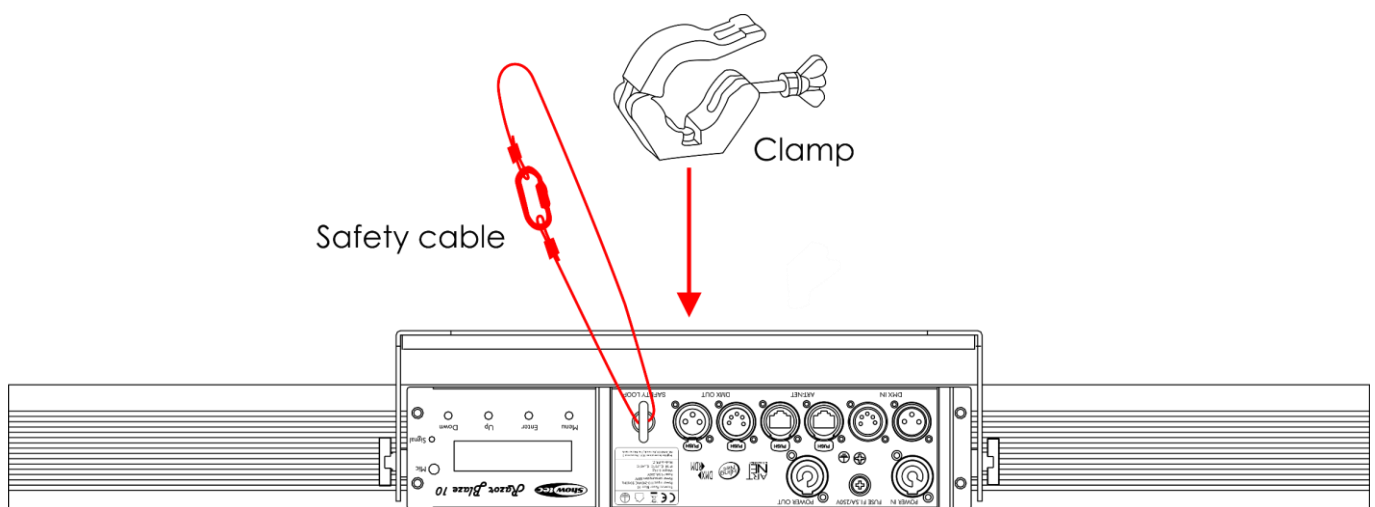

Fig. 01
- The installation must always be secured with a safety attachment, e.g. an appropriate safety net or safety cable, see Fig. 01.